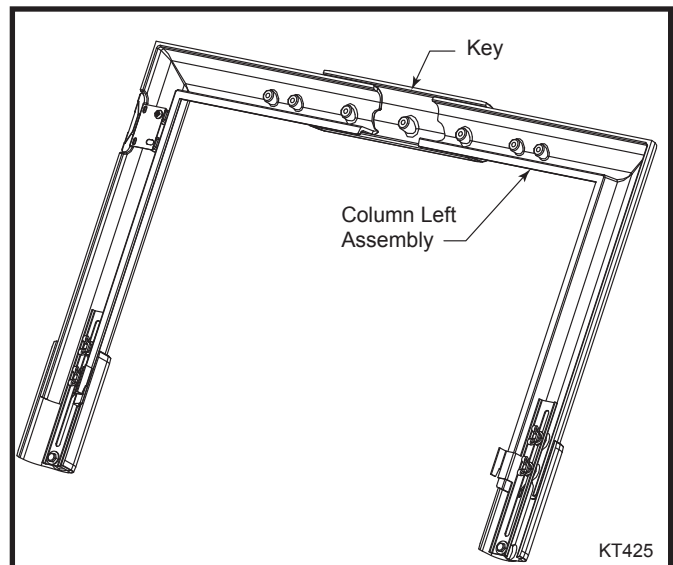

Fig. 5 Place column left assembly onto key.
3. Place the column left assembly onto key. (Fig. 5)